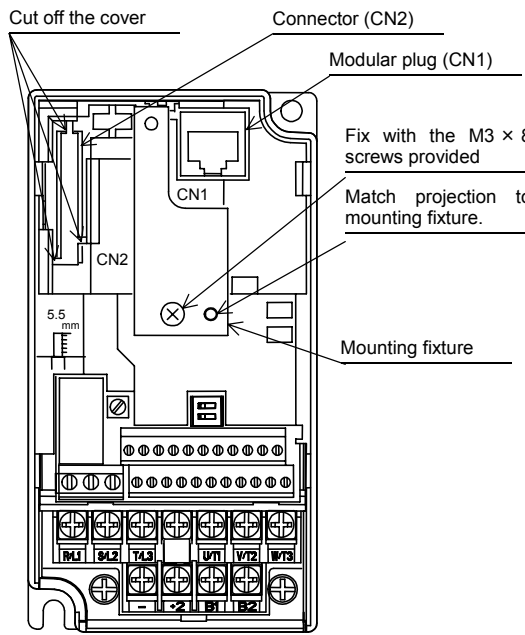

Fig. 1 Front of Inverter
- 2) See Fig.1 for the three places where you should cut off the cover of the inverter's CN2 connector. Use nippers to cut it off. Be careful so that the nippers do not fall into the inverter unit. Should they fall in, be sure to remove them.
- 3) Fix the mounting fixture as shown in Fig.1.